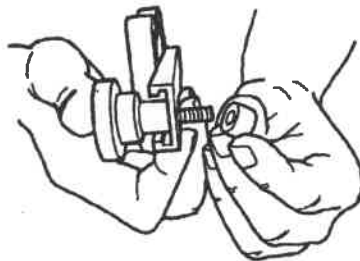

Fig. A-37
3. Put another spacer (2) on the other side of the extrusion (1), as in Fig. A-37.